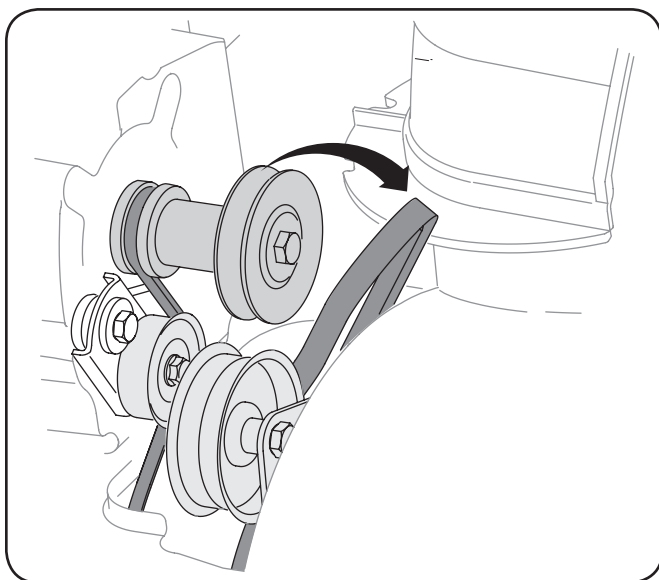

Figure 8-2
2. Roll the auger belt off the engine pulley. See Fig. 8-2.